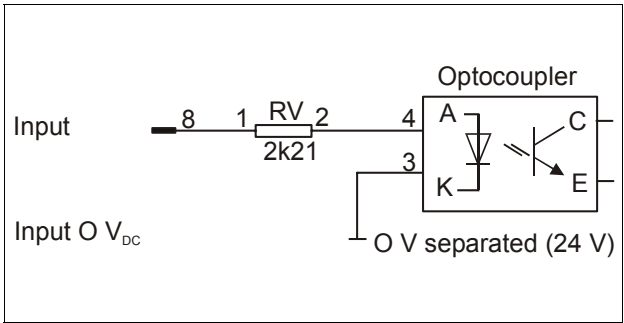

Fig. 17: Digital I/O input circuit, schematically
- Selection of an axis mouse click onto the button axis ID in the field **axis** (Fig. 17)